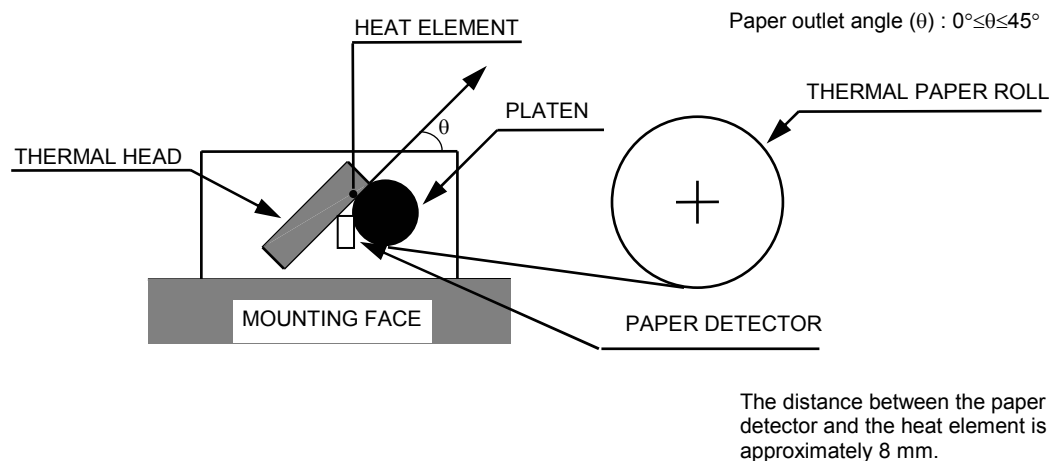

Figure 6-1 Paper Layout
- Design the paper outlet angle in 0 to 45°. (See **Figure 6-1**)